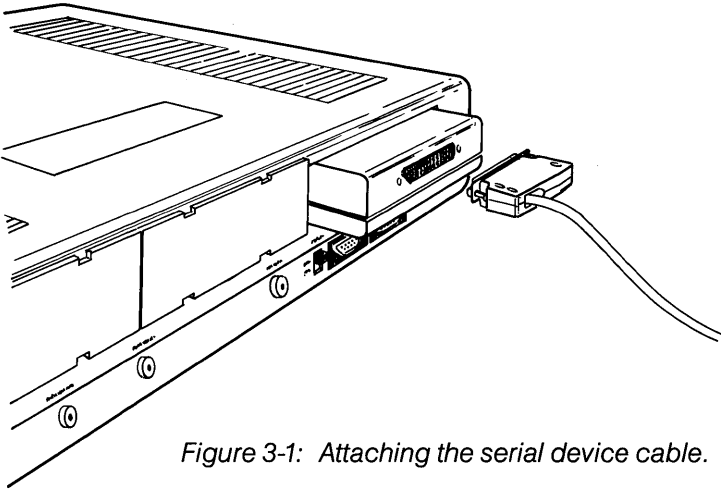

Figure 3-1: Attaching the serial device cable.
1. Attach the D-shaped connector of the device cable to the connector on the rear of the RS-232-C Module With Power Option (see Figure 3-1).